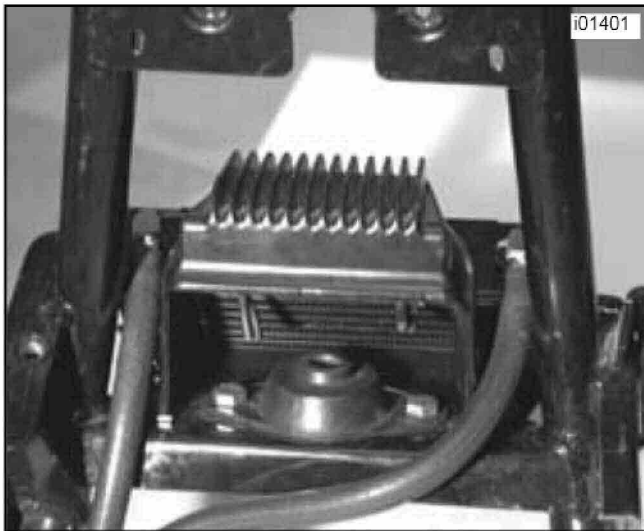

Figure 3. Hose routing (view behind front of frame)
- See Figure 3. Route one end of hose from kit between voltage regulator and left downtube as shown. From the left side of the motorcycle, route the other end of the hose under the front engine mount behind frame crossmember. Continue to route hose between the voltage regulator and right down tube as shown. Leave hose uncut for now.
9. See Figures 3 and 9. Route one end of hose from kit between voltage regulator and left downtube as shown. The stator wiring must be routed outside of the hose and regulator wiring must be routed inside of the hose.